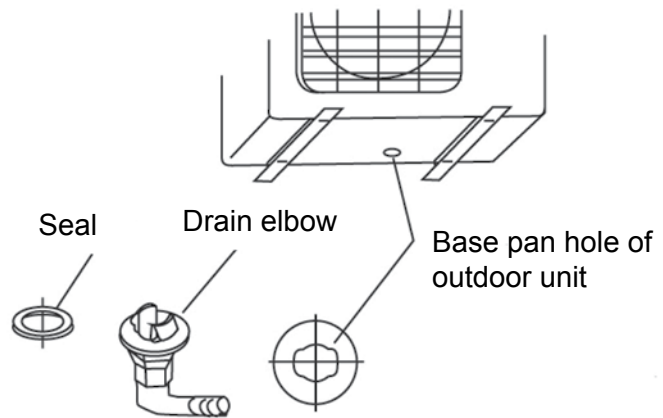

Fig. 19
- Fit the seal onto the drain elbow, then insert the drain elbow into the hole on the base pan of the outdoor unit, rotate it 90° to secure into place. (Fig. 19)